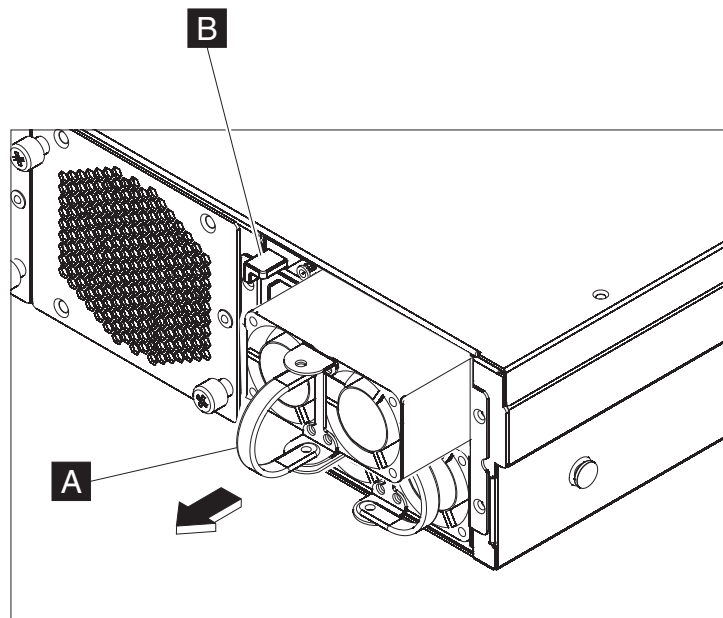

Figure 16. Removing a power supply module
- a. Firmly grip the handle **A** of the failed module while pressing the orange release latch **B** toward the handle, and hold the release latch in this position, as shown in Figure 16.